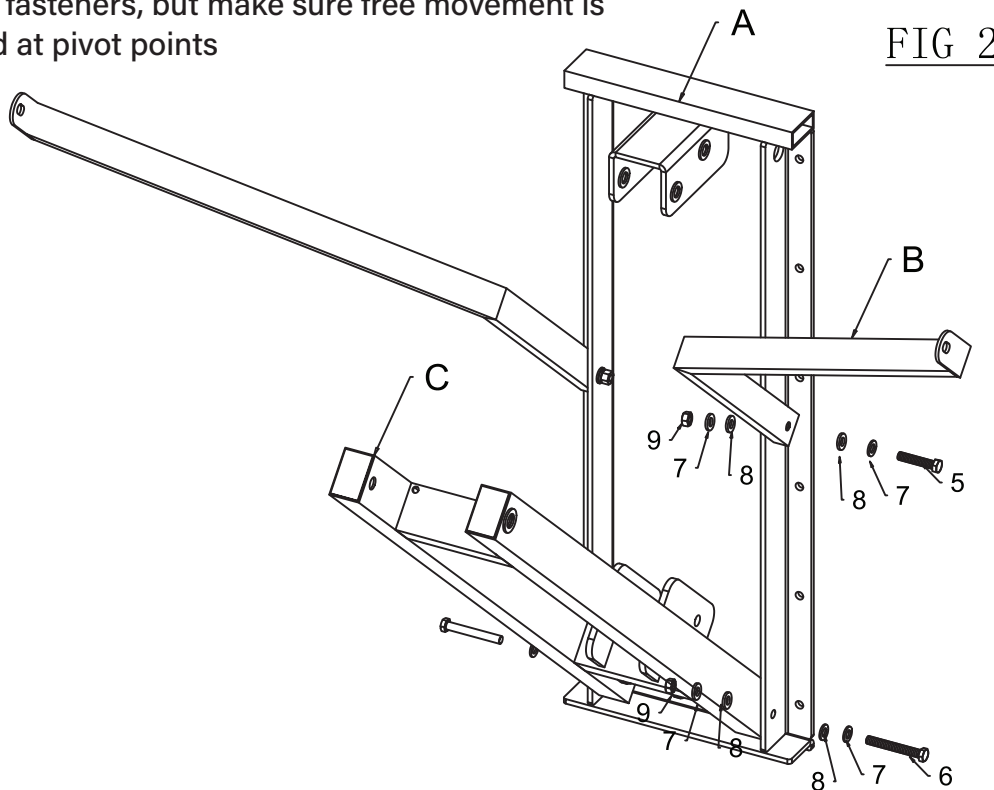

FIG 2
- Attach Upper Arms (B) and Lower Arm (C) to Wall Frame (A) using specified hardware shown in FIG2
- Attach Upper Arms (B) to Wall Frame (A) using specified hardware shown in FIG2.
- Attach Lower Arm (C) to Wall Frame (A) using specified hardware shown in FIG2